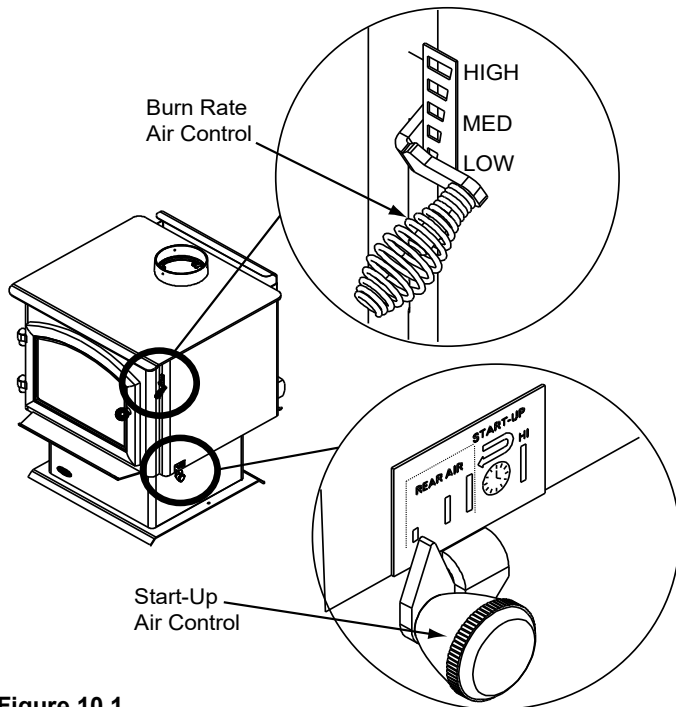
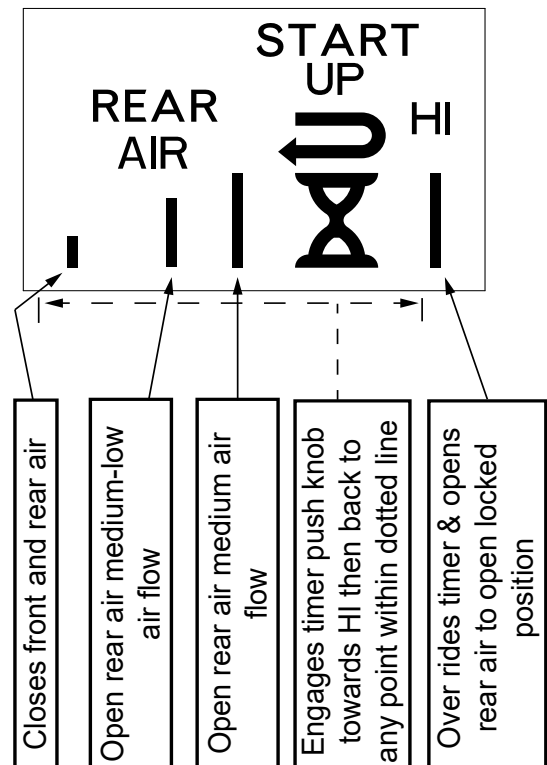

Figure 10.1
Figure 10.2
The next stage of burning, the secondary stage, is the period when the wood gives off flammable gases which burn above the fuel with bright flames. During this stage of burning it is very important that the flames be maintained and not allowed to go out. This will ensure the cleanest possible fire. If the flames tend to go out, it is set too low for your burning conditions. The air control located at the upper right hand corner is used to adjust for burn rates. This is called the Burn Rate Air Control (Figure 10.1).
This air supply enters at the upper front of the firebox, near the top of the glass door. This preheated air supplies the necessary fresh oxygen to mix with the unburned gases, helping to create second, third and fourth combustions. This air is regulated by the Burn Rate Air Control. When the control is moved all the way up it is on the High setting and when moved all the way down it is on the Low setting (Figure 10.1).
To engage the Automatic Combustion Control (ACC) timer system push the lever towards the back of the appliance to the "HI" position, then pull forwards towards the front of the appliance until the knob stops. The timer will slowly close in about 25 minutes. Use this feature when reloading fuel or if you want more air supplied to the fire (Figures 10.1 and Figure 10.2).
- Then activate the ACC timer system by pushing the knob all the way back toward the appliance to "HI" then pull forwards towards the front of the appliance until the knob stops (**Figure 10.1 on page 10**).